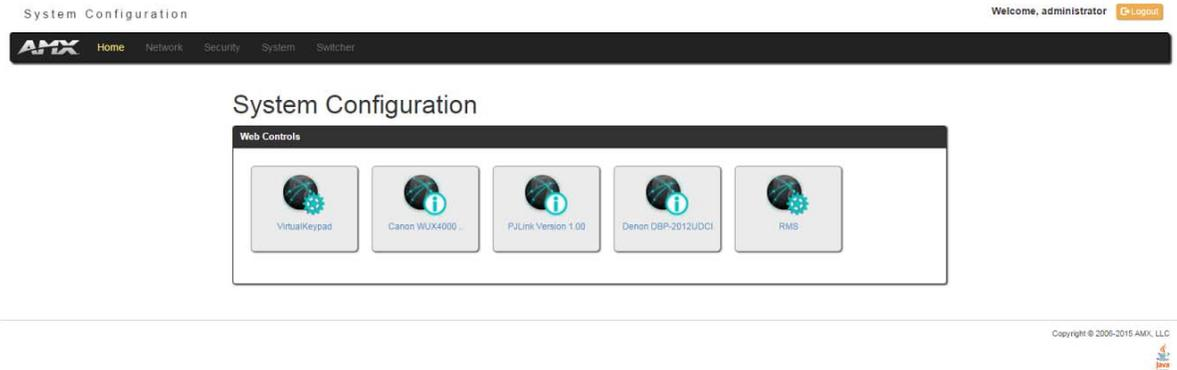

FIG. 29 WebConsole - Web Controls page (initial view)
NetLinX Masters have a built-in System Configuration interface that allows you to make various configuration settings via a web browser on any PC that has access to the Master. The System Configuration interface (an on-board web configuration) contains a comprehensive set of web pages that can be used during setup to manage your system's network, security, and system needs, as well as configure its inputs and outputs while executing switches (FIG. 29).
2. Press Enter to access WebConsole for that Master. The initial view is the *Web Control* page (FIG. 29).